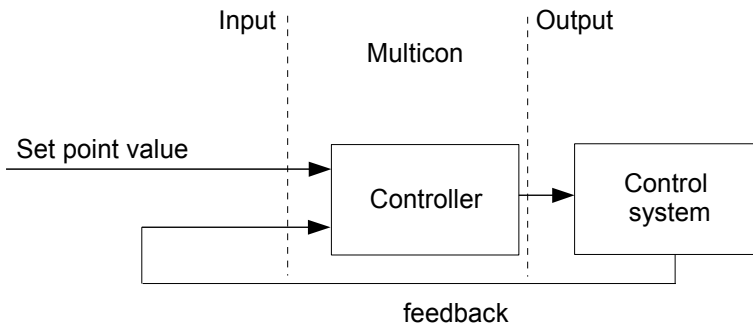

Fig. 7.50. The overall structure of control system implemented in the device
- **Set point channel** - this parameter allows the user to select a logical channel with set point value (see Fig. 7.50), **Set point channel** defines input data for process control,
- **Feedback channel** - this parameter allow the user to select a channel with data returned from control system (see Fig. 7.50), **Feedback channel** define input data for process control,